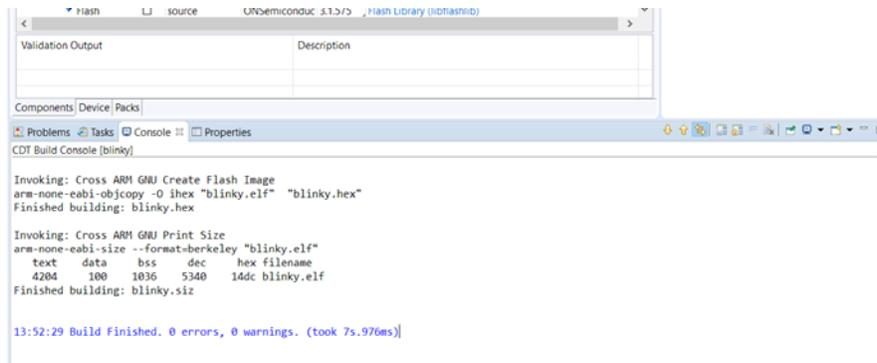

Figure 8. Example of Build Output
2. When the build is running, the output of the build is shown in the onsemi IDE C/C++ Development Tooling (CDT) Build Console, as illustrated in Figure 8.